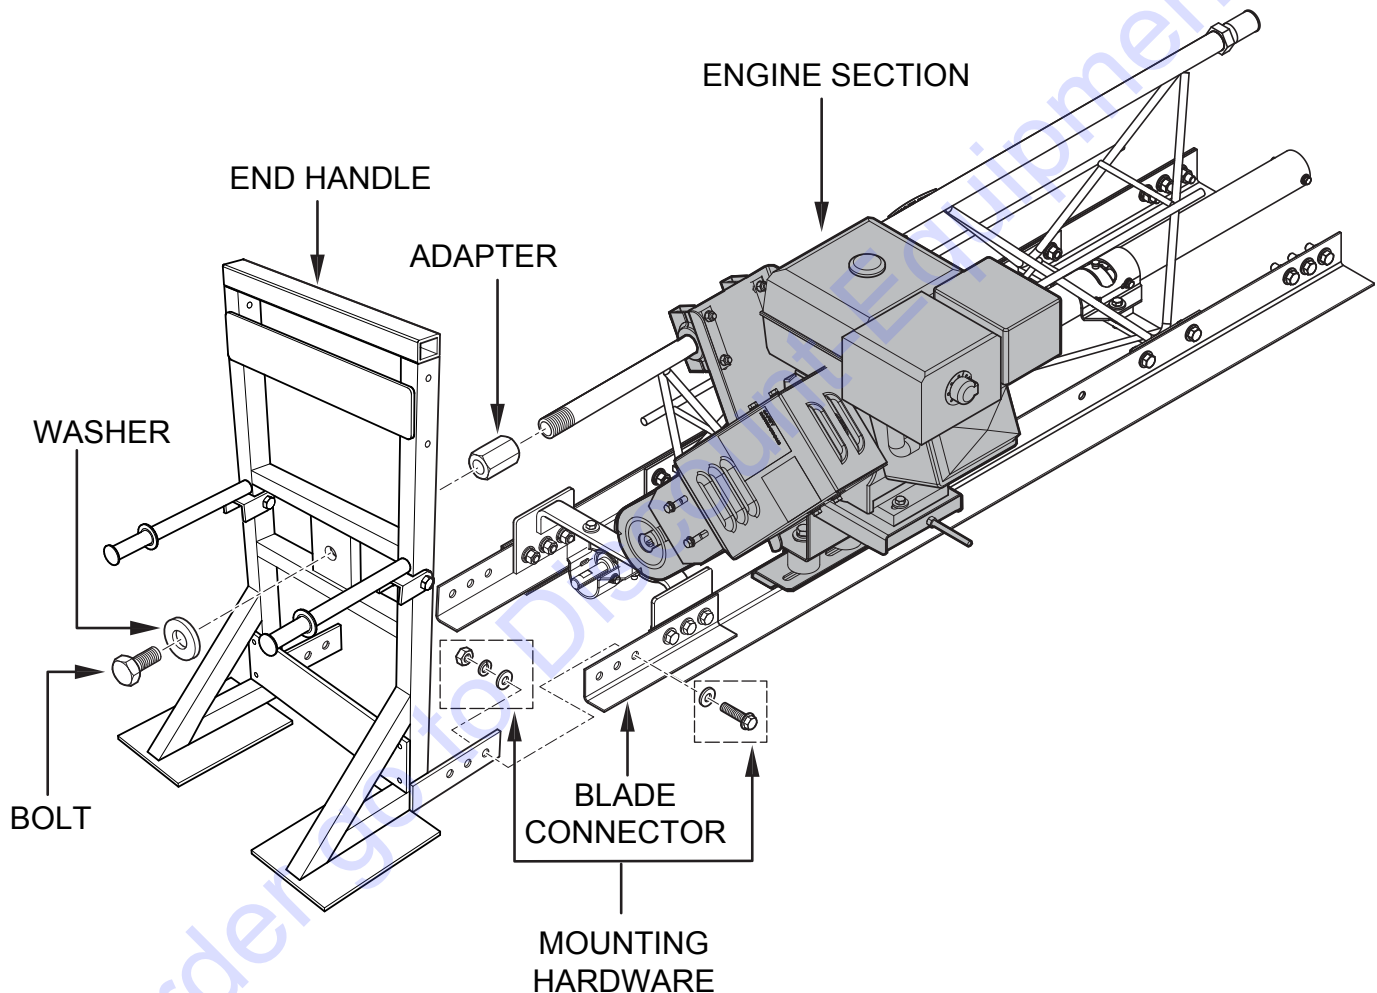

Figure 19. Mating End Handle and Engine Sections
1. The end handle and engine truss frame sections are pre-assembled. Simply connect one end of engine truss frame as shown in Figure 19